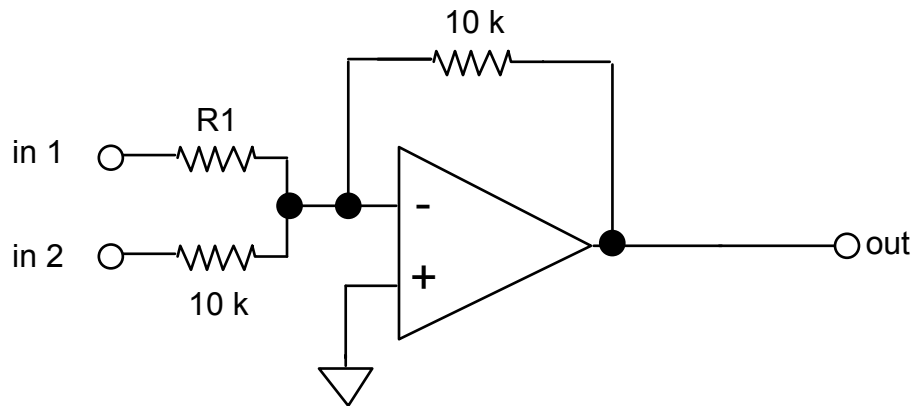

Figure 7-5 Summing Amplifier
- ☛ Build the circuit shown in Figure 7-5. Choose $R_1 = 10\text{ k}$.